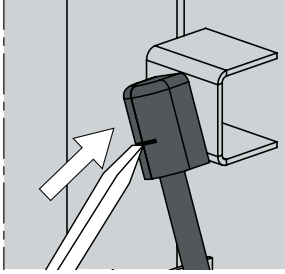
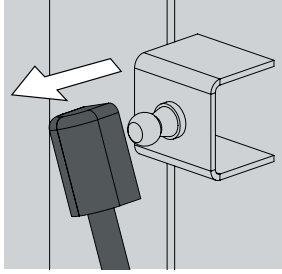

Figure 11
Figure 12
2. Using a small screwdriver, insert the screwdriver blade into the notch and under the spring clip (figure 11). Pry the clip up until the ball stud is released, and pull the spring away. (figure 12) Repeat this process for the bottom clip.